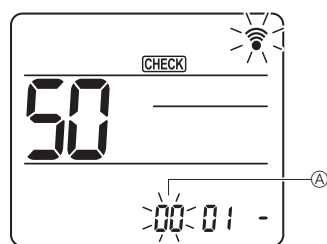

Fig. 7-18
② Setting the unit number
Press the [DOWN] button to set unit number ④. (Fig. 7-18)